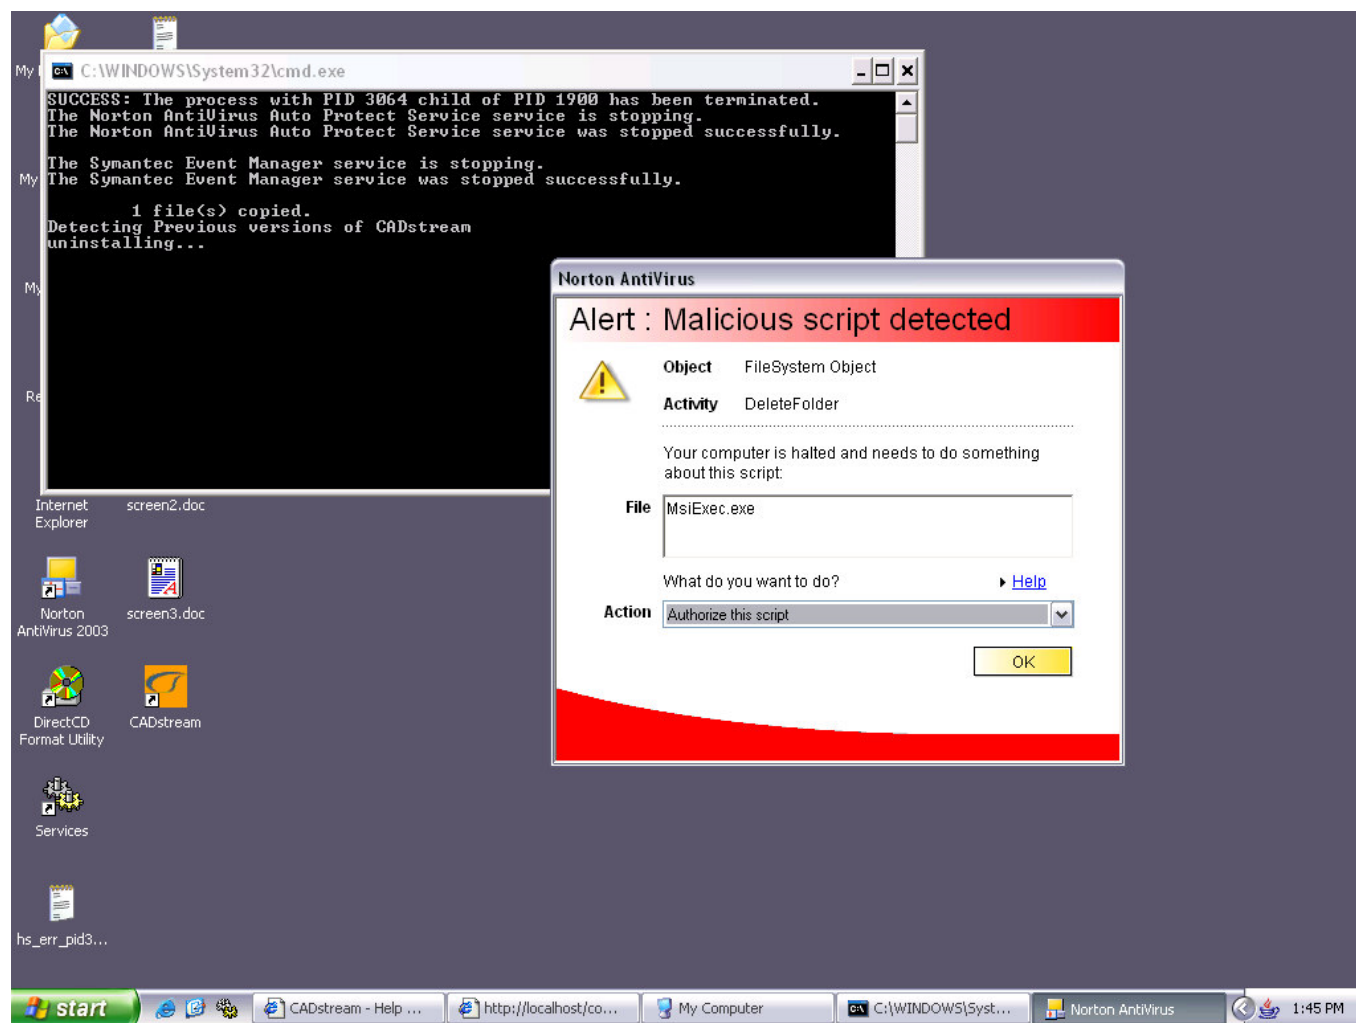

FIGURE 1: FIRST NORTON ANTIVIRUS WINDOW
3. In Norton Anti-Virus window select: Action – Authorize this script and click OK. See figure 1